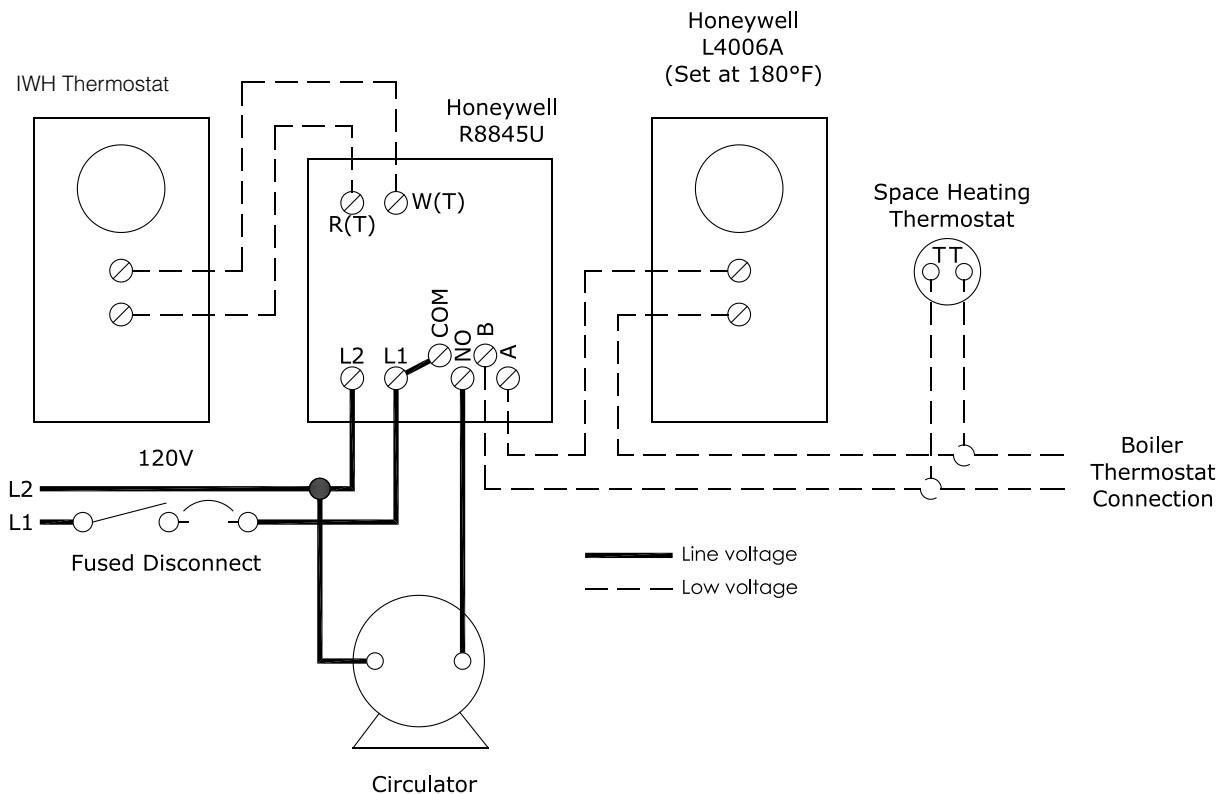

Figure B-2: Indirect Water Heater (IWH) Wiring
4. Boiler Limit Control - Use a SPST break-on-rise temperature limit control such as the Honeywell L4006A. Do not set limit above 180°F as doing so may cause boiler to steam when there is no call for heat. See Figure B-2 for wiring.
6. Figure B-2 shows field wiring for an indirect water heater. A Honeywell R8845U or equivalent DPST relay and transformer is required. Limit control as described in Section 4 must also be supplied by installer. A call for heat from the IWH thermostat will energize relay making both sets of contacts. One contact energizes the circulator. Other contact will make boiler "T"- "T" circuit, firing burners. If boiler water temperature exceeds high limit setting of 180°F, high limit will open boiler "T"- "T" circuit and burners will shut down.